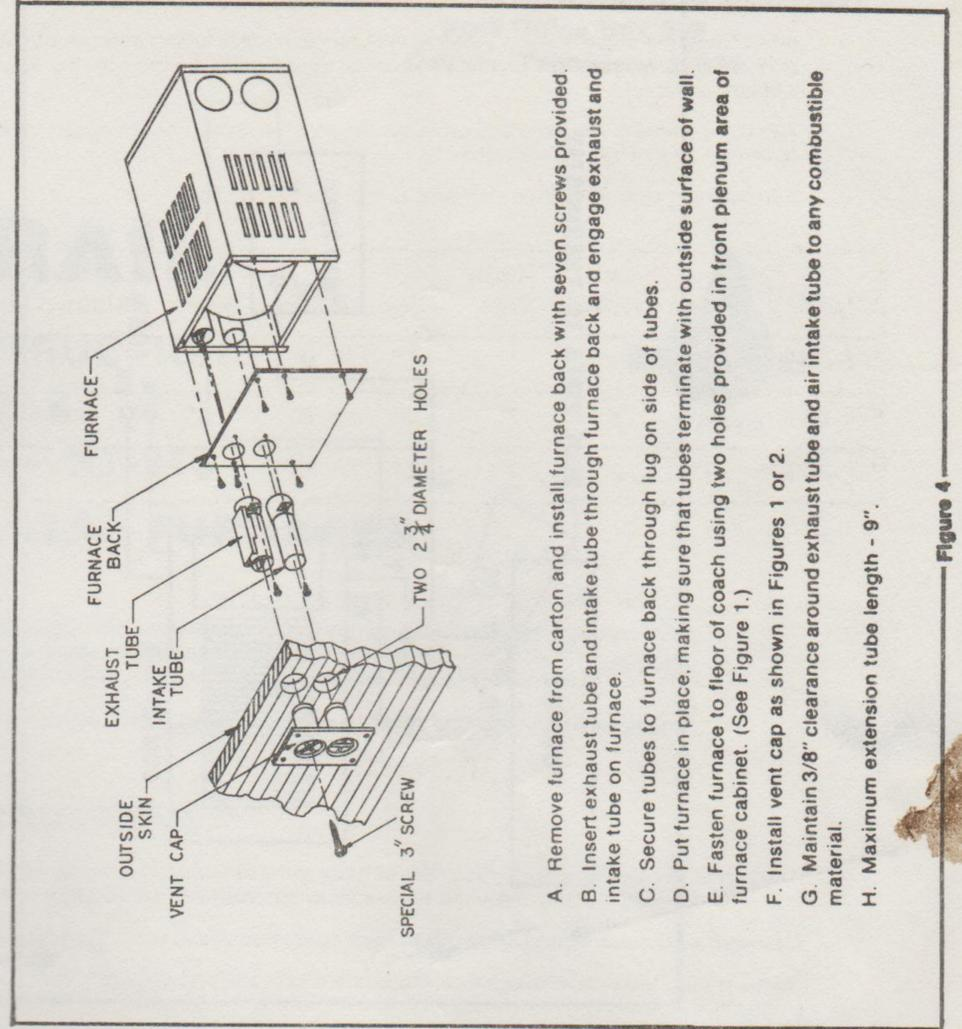

Figure 4
C. INSTALLATION USING VENT EXTENSION TUBES (See Figure 4)
- 2-Cut two 2 3/4" diameter holes through coach wall for exhaust and intake. (See Figure 4.)
5-Attach extension tubes to furnace as shown in Figure 4. Secure each extension tube to the exhaust and intake tube on the furnace, as shown.